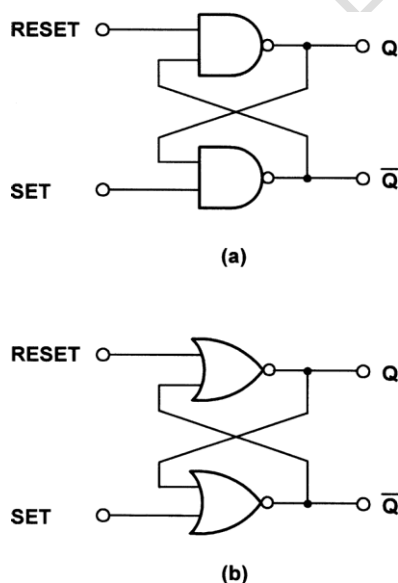

Figure 10.19 R-S bistables using cross-coupled NAND and NOR gates
- Two simple forms of R-S bistable based on cross-coupled logic gates are shown in Fig. 10.19. Fig. 10.19(a) is based on NAND gates while Fig. 10.19(b) is based on NOR gates.